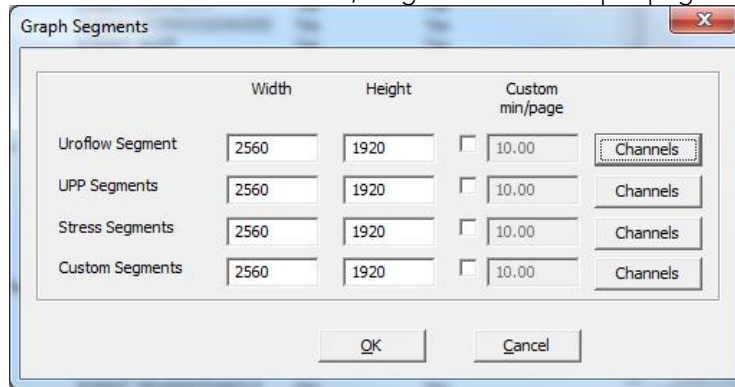

Figure 78: Graph Segments Window
- Click **Graph Segments** to customize the width, height and minutes per page for reports (Figure 78).